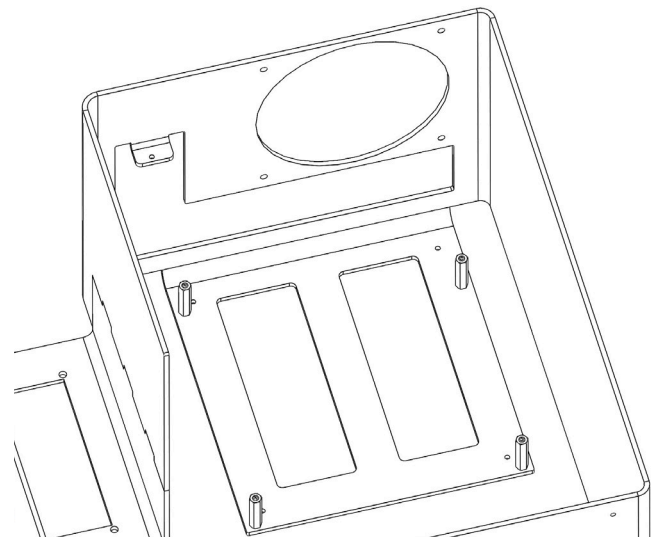

fig. 1
2. Screw the four 1" standoffs into the motherboard flange by hand (fig. 1). Pre-install the CPU cooler as well as the RAM, then mount the motherboard to the stand-offs using the provided 6-32 screws.